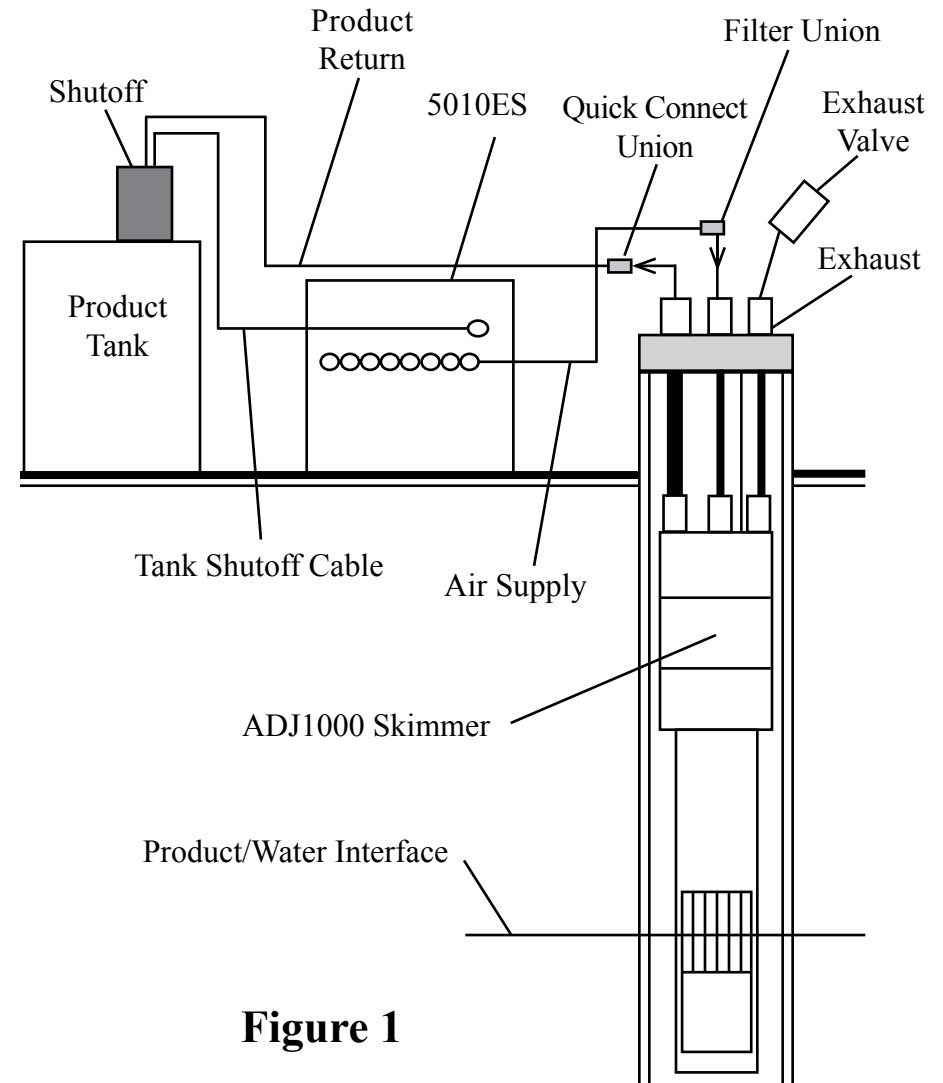
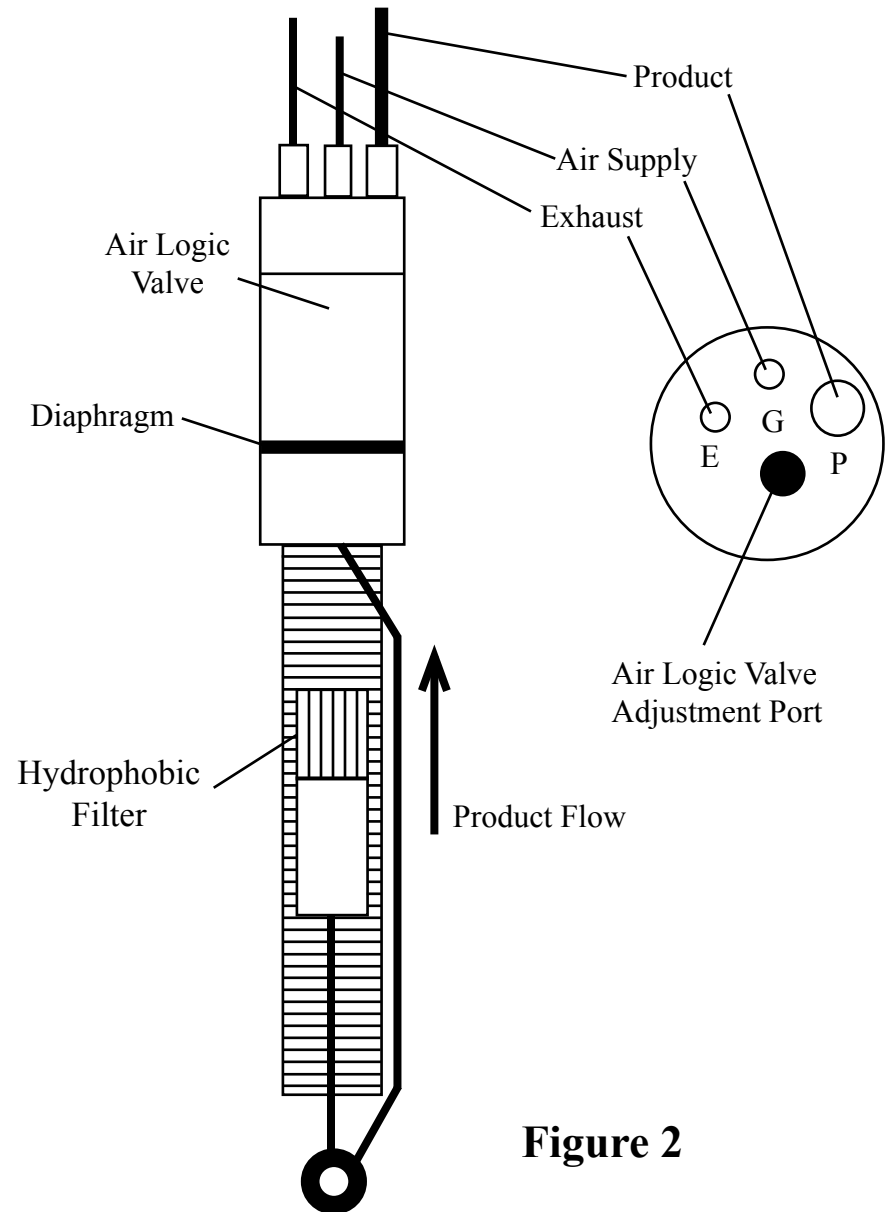

Figure 1
Figure 2
The system (Figure 1) relates to floating hydrocarbon recovery in wells four inches in diameter and larger. This system includes: an intrinsically safe ADJ1000 pneumatic Smart Skimmer (Figure 2) which removes only the product to a sheen down to 200 feet deep; and a programmable Control Station Model 5010ES which operates up to 8 skimmers intermittently, records run time, and has a high level tank shutoff.
STEP 1. Place programmable Control Station Model 5010ES (Figure 1) near the air source, power source, and holding tank if possible. **CAUTION:** The standard electronic controller is NOT intrinsically safe. If this controller must operate in a CLASS I area, the XITECH Model 2550ES CLASS I controller will be required.
STEP 2. Install holding tank shutoff assembly into holding tank (a 2" standard pipe inlet will be required in the holding tank). The level of product in the holding tank can be set by raising or lowering the liquid level float switch rod. Plug the high level shutoff switch cable connector into the left end of the controller (Figure 1).
STEP 3. Attach power line from the AC power source to the right end of the control station (Figure 1). Turn on the controller power switch. If the red "Product Tank Full" light stays on, you have a problem with tank shutoff wiring. Turn off the power switch and re-check the tank shutoff wiring. If the light continues to stay on, call the factory.
STEP 7. Position the skimmer and well cap on the ground near the well. **NOTE:** If the skimmer is over 60 feet deep, use a vented design skimmer. Cut a length of 3/8" OD air supply tubing to cover the distance from the top of the well down to water/product interface, plus 5 feet. Slide enough tubing through the well cap and attach the end of the tubing to the top of the skimmer tube fitting labeled "G" (Figure 2). If the product thickness is greater than 1 foot, position the skimmer's "Black Reference Line" on skimmer well screen 1 foot below top of product. If the product thickness is less than 1 foot, position the skimmer's "Black Reference Line" on skimmer well screen at the water/product interface.
STEP 8. Cut a length of 1/2" OD product tubing same length as the air supply line. Install 1/2" OD product tubing through the well cap tube fitting labeled "P" (Figure 2). Slide enough tubing through the well cap and attach the end of the tubing to the top of the skimmer tube fitting labeled "P". **CAUTION:** Do not kink the tubing.